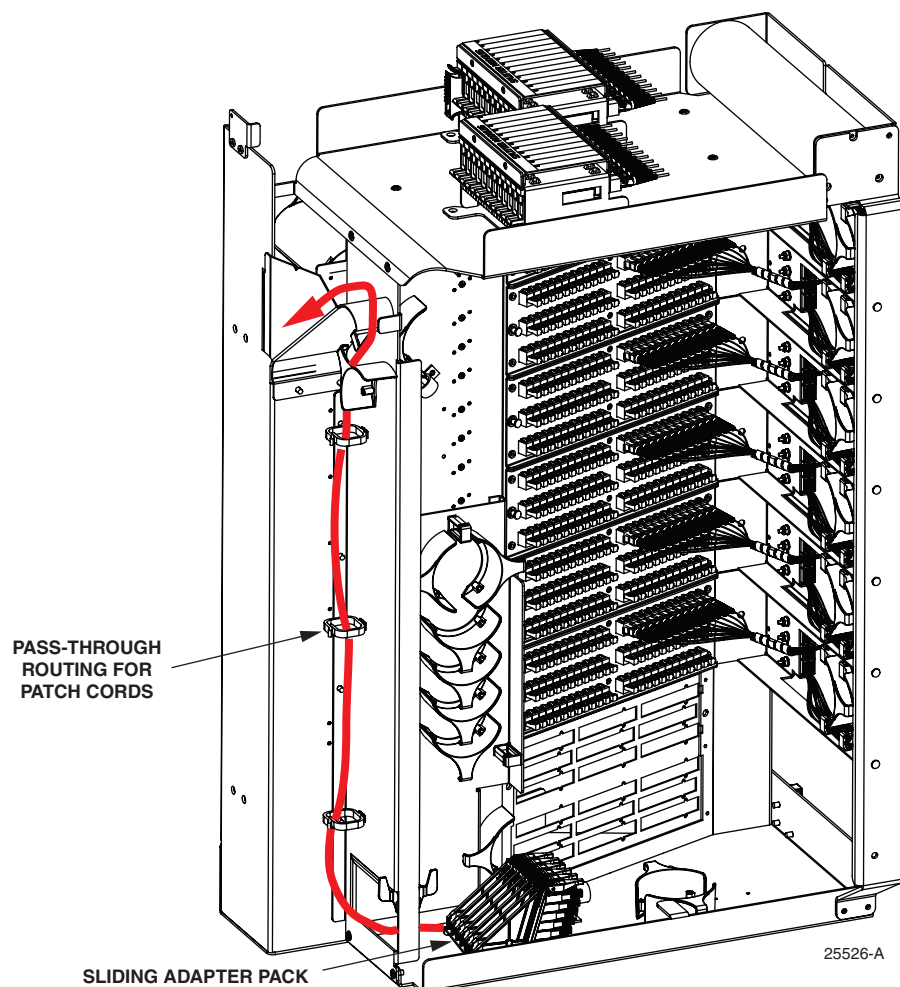

Figure 14. Routing Pass-Through Patch Cord From Sliding Adapter Pack
10. Route pass-through patch cord to front side of swing-out assembly as shown in Figure 14.